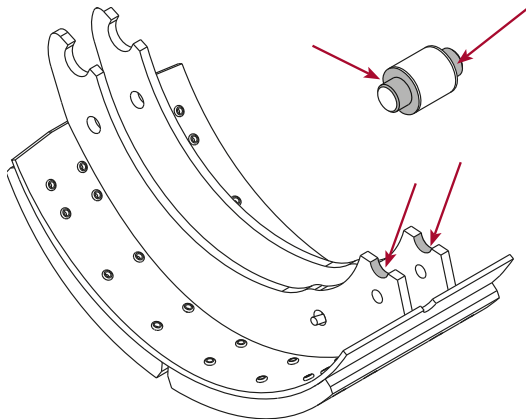

Figure 60: Apply Lubricant to Roller Ends & Roller Slot
1. Smear a small amount of suitable anti-seize compound grease to the roller ends and the corresponding roller slot in the shoe. Refer Figure 60.